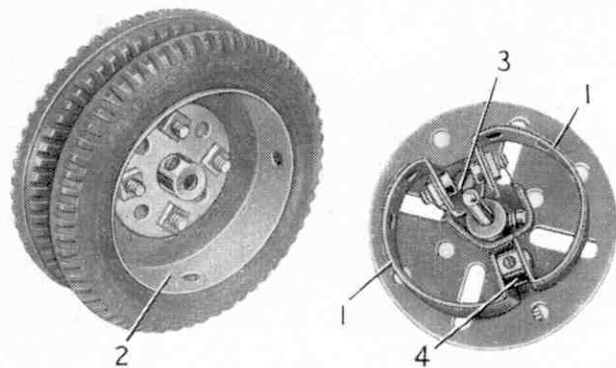

Fig. 1. An exploded view of the internal expanding brake described on this page.
A. Browning, Bristol, provides details of a powerful internal expanding type of brake he has designed. His mechanism is shown in Fig. 1 and it follows fairly closely the constructional methods used in actual practice.